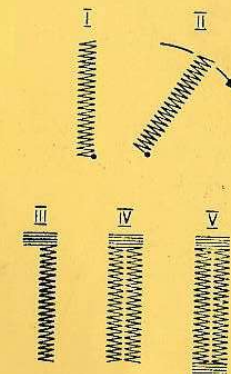

Fig. 58
- Bring lever «C» (Fig. 1) on 1,5 and make first row of stitches (Fig. 58, Operation I) going as far as to reach the limit marked by the guide. Leave needle in fabric.
- Raise presser foot and turn fabric half a turn around needle (Fig. 58, Operation II). Lower presser foot.
- Make first bar tack with 3 or 4 stitches (Fig. 58, Operation III) and stop sewing with needle out of fabric.
- Bring lever «C» on 1,5 and make second row of stitches as long as the first (Fig. 58, Operation IV). Stop sewing with needle out of the fabric.
- Bring lever «C» on 3 and make second bar tack (Fig. 58, Operation V).